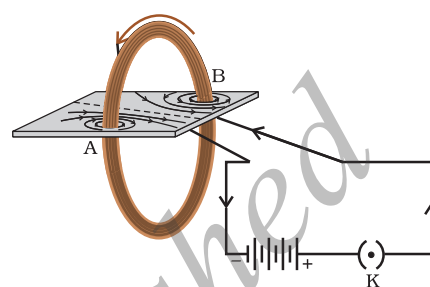

Figure 13.9
- Connect the ends of the coil in series with a battery, a key and a rheostat, as shown in Fig. 13.9.